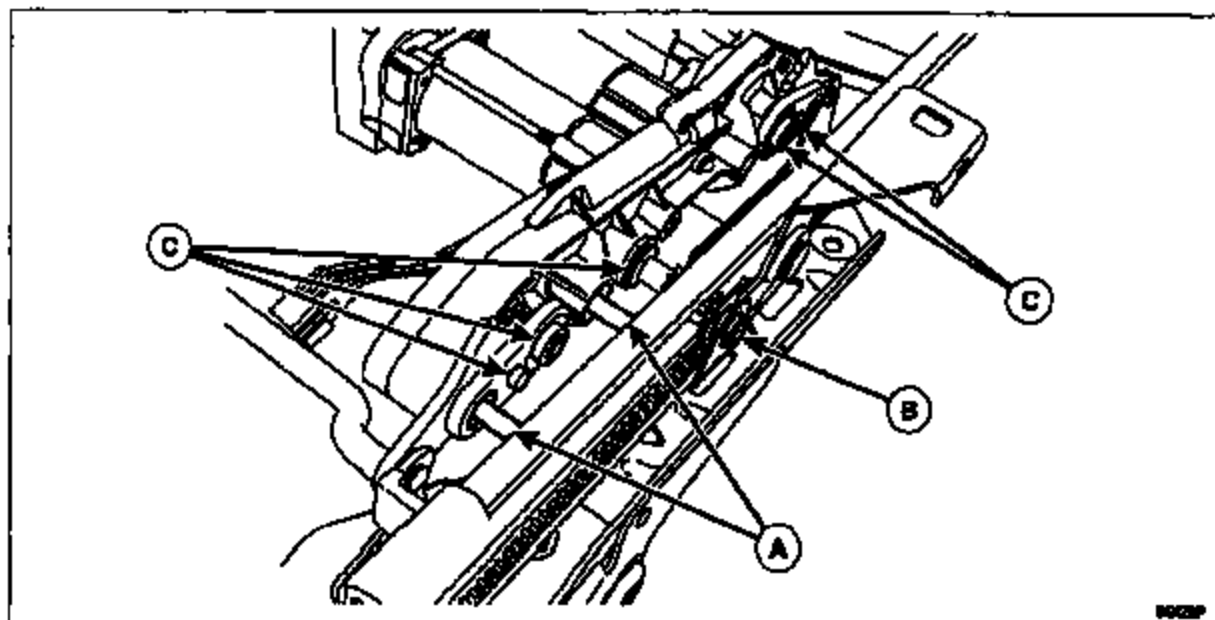

FIGURE 16
5. Install the outboard track as follows: See Figure 16.